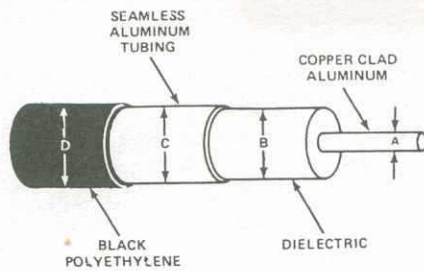

FIGURE 1. 1 INCH "HARDLINE" CATV CABLE.
Recently, large quantities of "1 inch" CATV cable have become available from various sources, at modest prices, from tag-end to full reel lengths up to 2400 feet. The cable is illustrated in Figure 1, below.
1. Using a tubing cutter make a cut through the black vinyl jacket and seamless aluminum jacket about 6 to 10 inches from the (possibly moist) end of the cable; then fine-hacksaw through the dielectric and inner conductor, as flush with the outer surfaces as possible, and so as to produce a flat, square, cut. Blow or brush away any aluminum chips from the dielectric surface. (See "B" of Figure 1.)
* Use of the drill guide requires temporary cut and removal of about 1/4" of the black polyethylene jacket to allow the guide to slip down over the aluminum jacket, (c), of Figure 1.
Fig. 1 is a scope pix of a line, sync pulse, and a line. The signal is called 'Ten Step.' At the bottom center is the sync pulse at 100%. Then moving to the right we go from black through greys to white at 12.5%.